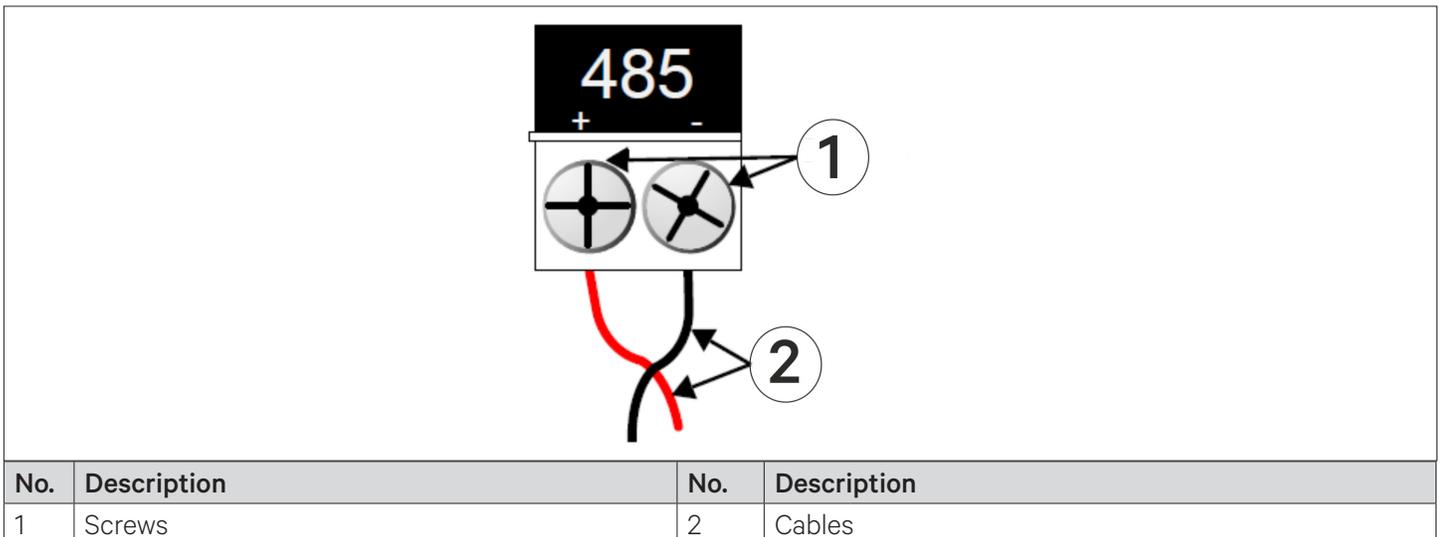

Figure 5-6 Adapter RJ-45-2POS Terminal Block
3. Position the adapter so that the side with positive and negative marks is faced up. The small markings are on the same side as the screw heads, as shown in Figure 5-6.